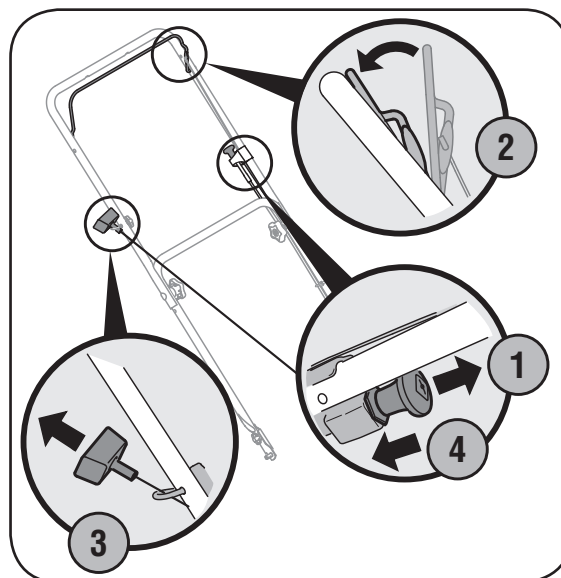

Figure 9-4
1. Move the choke lever on the right side of the upper handle to START position. See Figure 9-4.
3. Pull the starter grip lightly until resistance is felt, then pull rapidly to overcome compression, prevent kickback and start engine. Repeat if necessary. See Figure 9-4.
4. When engine warms up, move the choke lever to RUN. See Figure 9-4.
1. Release the blade control handle. See Figure 9-4.